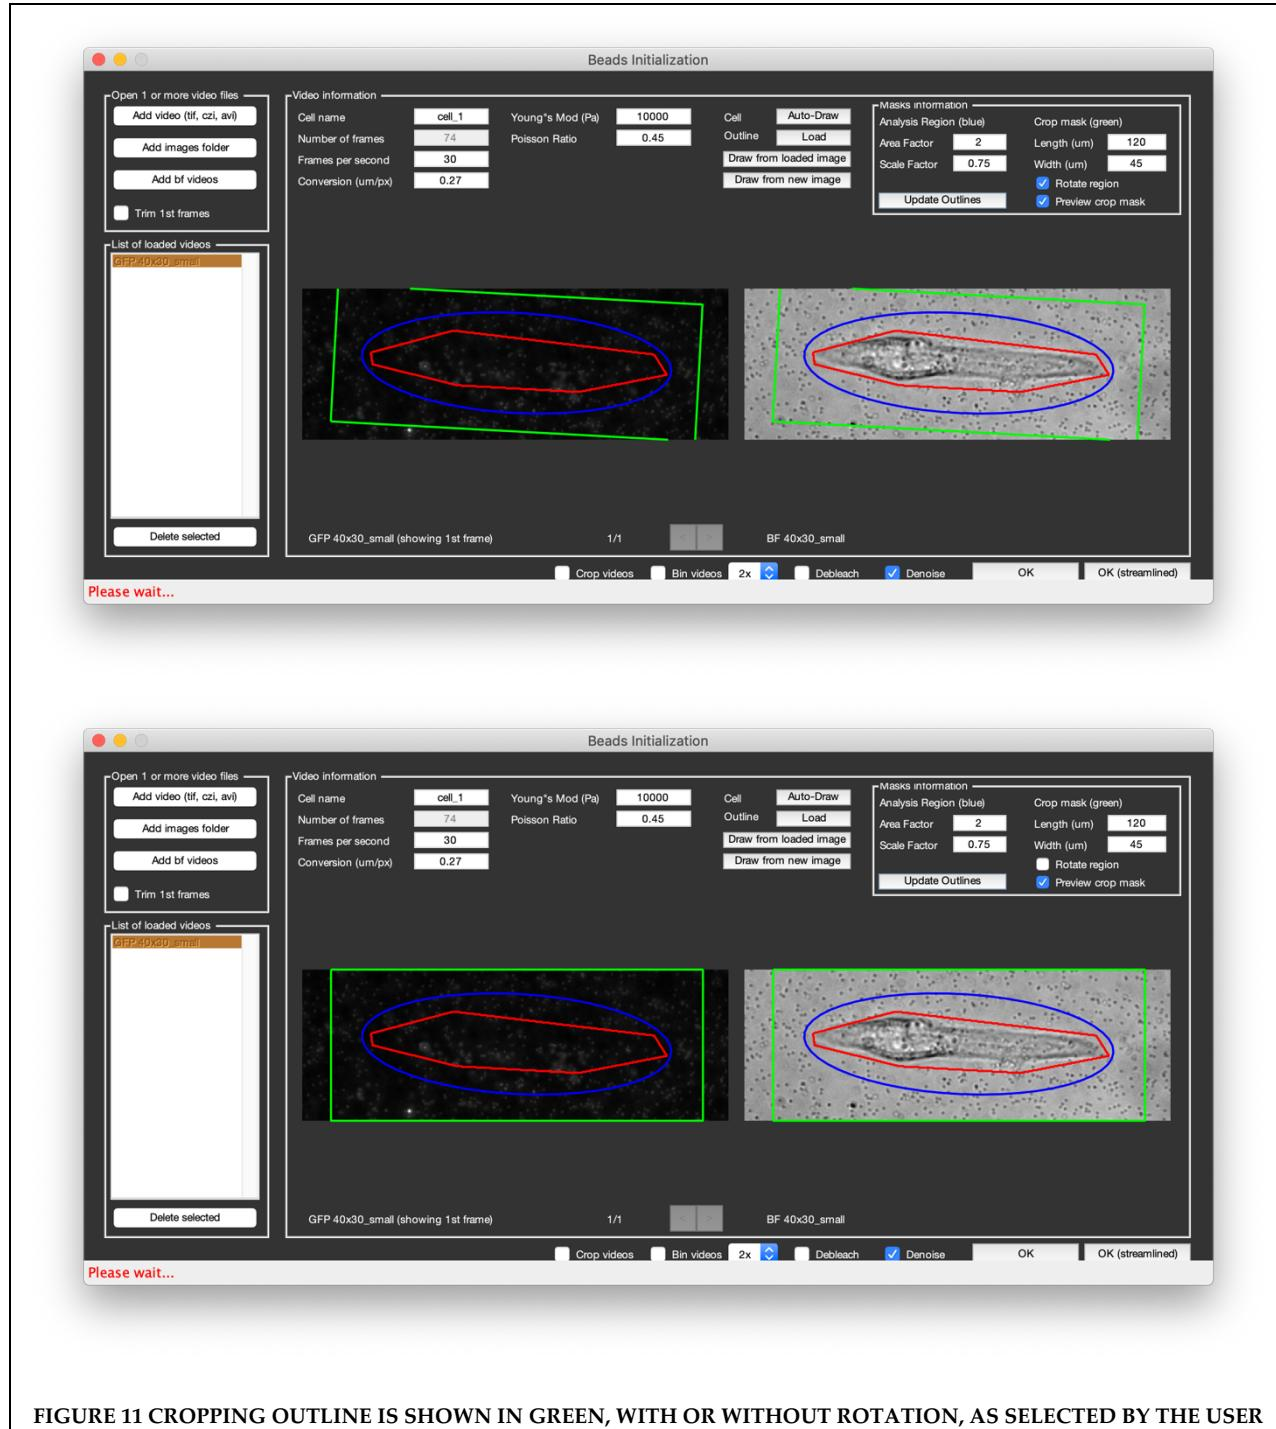

FIGURE 11 CROPPING OUTLINE IS SHOWN IN GREEN, WITH OR WITHOUT ROTATION, AS SELECTED BY THE USER
9. Select the size of the cropping mask if cropping of the video is desired. Note that enough space between the cell and the video frame edges is necessary to capture gel deformation that can propagate far from the cells in the case of a soft hydrogel formulation. Select if the cropping region should also rotate the image while cropping. Click on the *Update Outline* button to refresh the outlines preview (Figure 11).